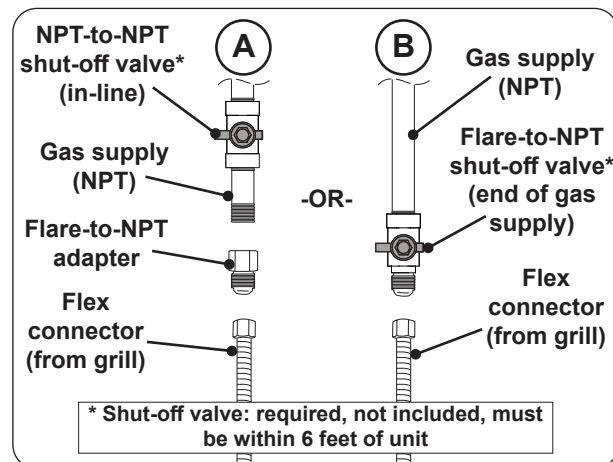

Fig. 27-2 Connecting to a gas line
- Install the supplied flare-to-NPT adapter to the gas supply (NPT) using a pipe joint compound resistant to all gasses (see Fig. 27-2, A). Tighten securely.
- Connect the flex connector to the adapter (see Fig. 27-2, A). Tighten securely.
- Connect the flex connector to the shut-off valve (flare) (see Fig. 27-2, B). Tighten securely.